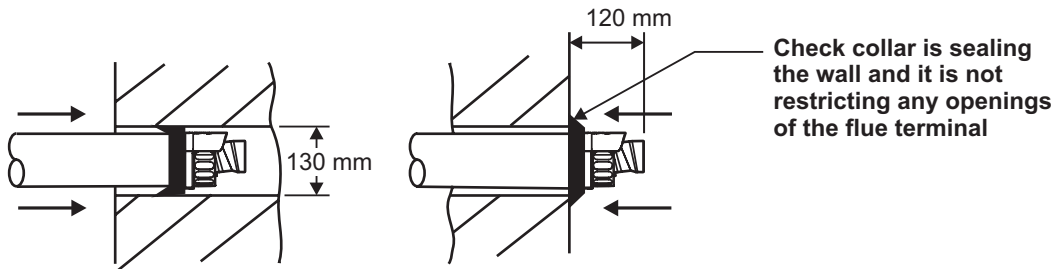

Fig. 4.5 - Fitting the flue from inside
4.6 FIT THE FLUE - Figs. 4.5 and 4.6
Note: Check the flue terminal protrudes 120 mm out of the wall and the inner duct of the terminal is positioned correctly (see Fig. 4.5).